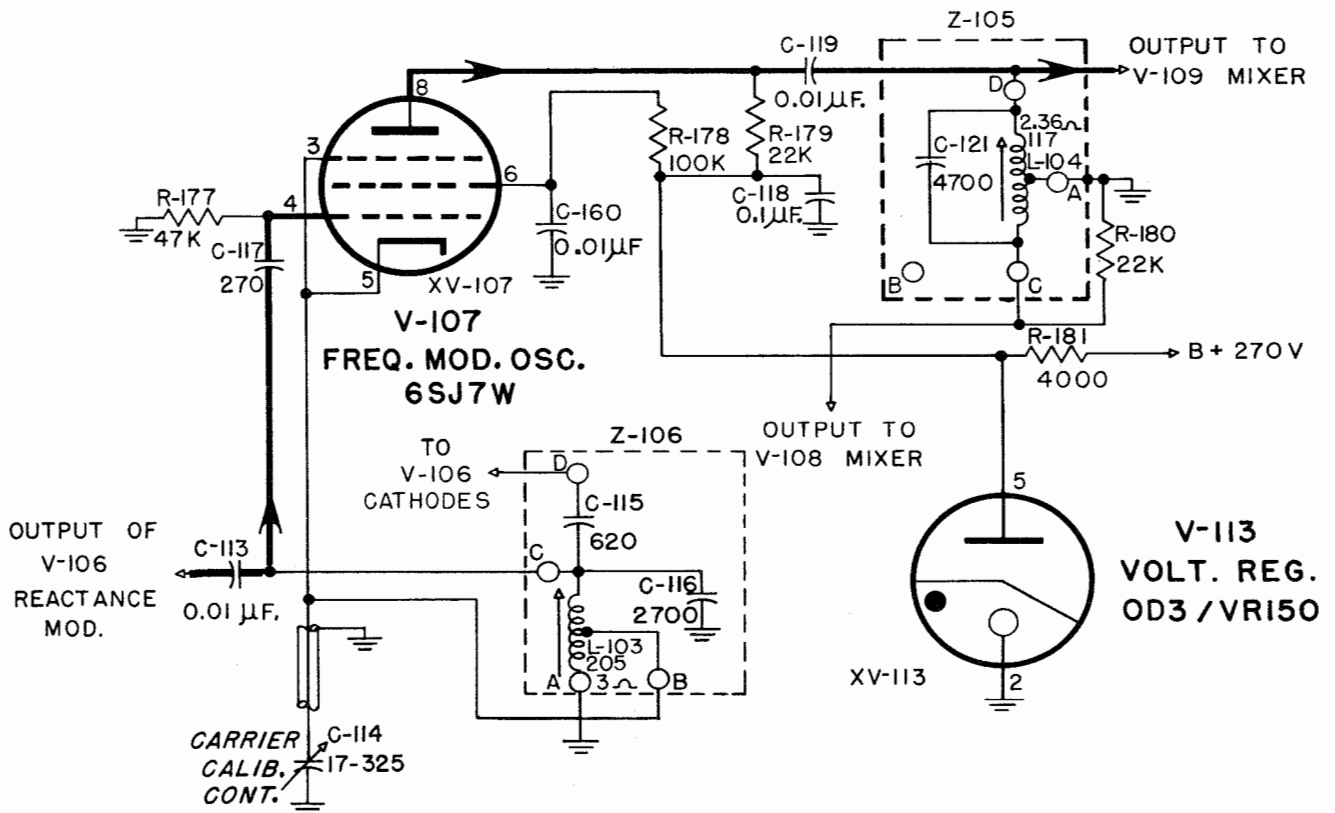

Figure 2-9. 200-Kilocycle Oscillator Stage, Simplified Schematic Diagram
(8) 200 KC. OSCILLATOR.—The low frequency oscillator employs a type 6SJ7W sharp cut-off pentode V-107 in an essentially balanced circuit. See Figure 2-9 for a schematic diagram of this stage. The oscillator operates at 200 kcs. and is heterodyned to the operating frequency by means of a crystal oscillator V-110 and a balanced mixer V-108 and V-109. The main tuning tank of the oscillator and the grid-cathode capacitor C-115 of V-106 are temperature controlled in the oven. Inductor L-103 is adjusted to provide a 200-kc. output when the CARRIER CALI-